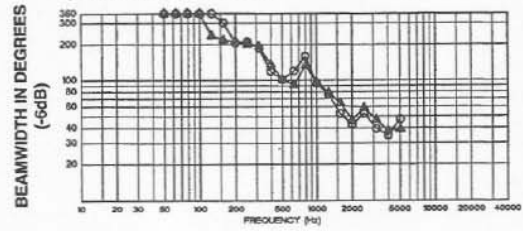

FIGURE 4 — TL15-1 One-Third-Octave Directivity vs Frequency
Directivity Factor R_0 (Q), Median over Indicated Range (see Figure 4),
Figure 4 illustrates the total directivity of the TL15-1. The directivity factor R_0 (Q) is the relative value, at a point, of the TL15-1 when compared to an ideal spherical response. The directivity index, D_1 , is calculated by $D_1 = 10 \log R_0$.